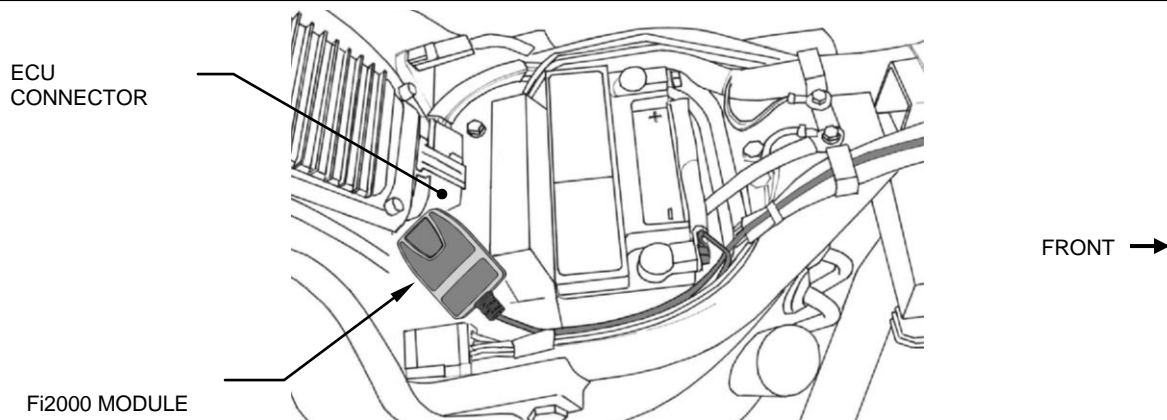
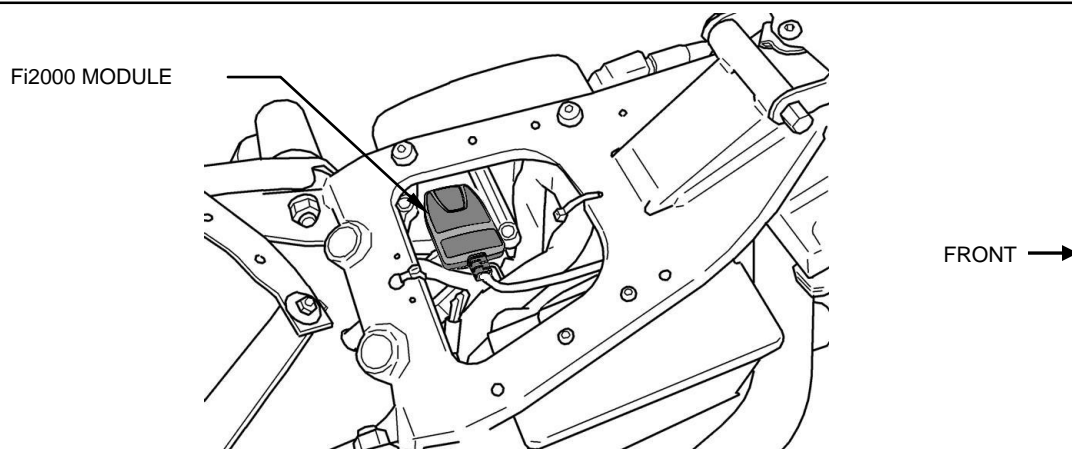
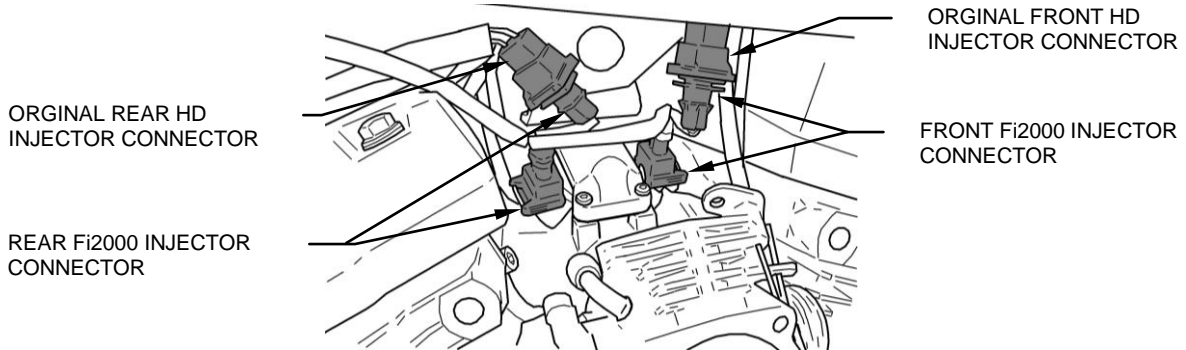
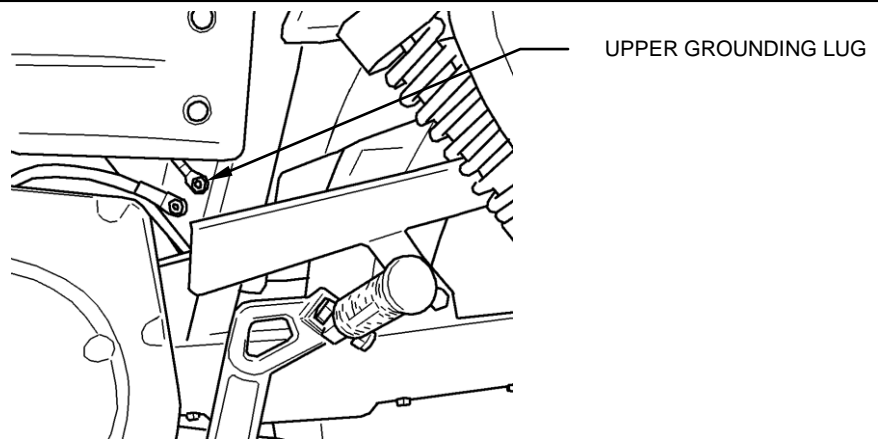

FIGURE 1
FIGURE 2
FIGURE 3
FIGURE 4
5. Lay the Fi2000 module in place, but do not attach it to the motorcycle at this time, run the wiring harness up to the manifold area behind the other wiring of the throttle body, (see Figure 1 for Softail and Figure 2 for Dyna.) Attach one pair of the Fi2000 module’s injector plugs to the front injector. Take the original HD connector and insert the corresponding Fi2000 connector into it (refer to Figure 3).
6. Attach the Fi2000 module’s remaining injector plug to the rear injector. Then take the original HD connector and insert the corresponding Fi2000 connector into it, (refer to Figure 3).
7. Attach the black wire to the negative post of the battery on Softail models, (see Figure 1). On Dyna models, route the black wire down behind the factory ECU until it appears below the coil/electrical box on the left side and attach to the upper ground lug on the frame, (see Figure 4).
11. Remove the backing from the Velcro and attach the Fi2000 as shown for Softail in Figure 1 and Dyna in Figure 2.